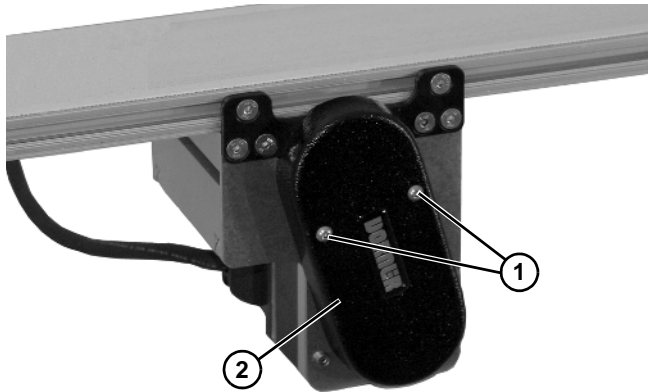

Figure 13
7. Remove two (2) screws (Figure 13, item 1) and remove cover (Figure 13, item 2).